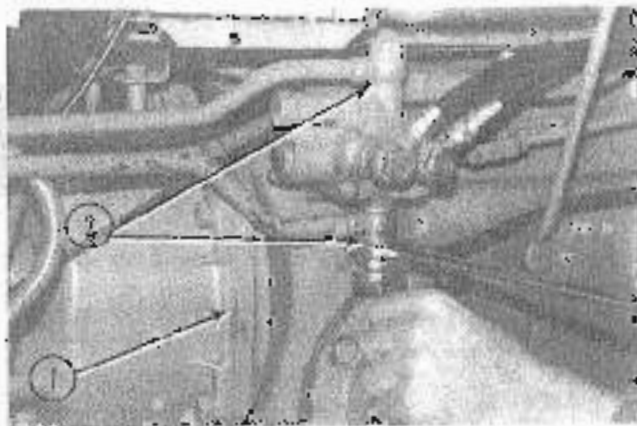

FIG. 1
Access to the dry, single-stage clutch is obtained by unbolting the engine/bell housing assembly from the front face of the transmission. (1, Fig. 1)
- (1) Hydraulic pressure and return lines at the lift valve. (2, Fig. 1)